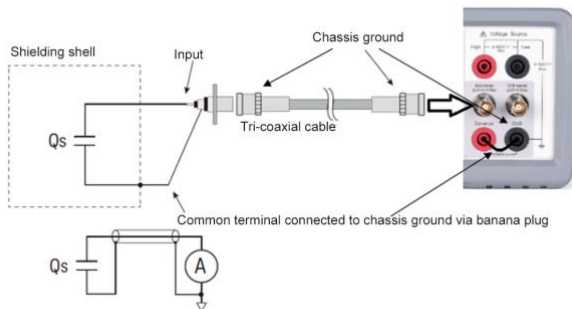

Figure 5-12 Charge measurement connection
- 6) Connect the measurement charge (DUT) to the Ammeter input connector. See Figure 5-12.